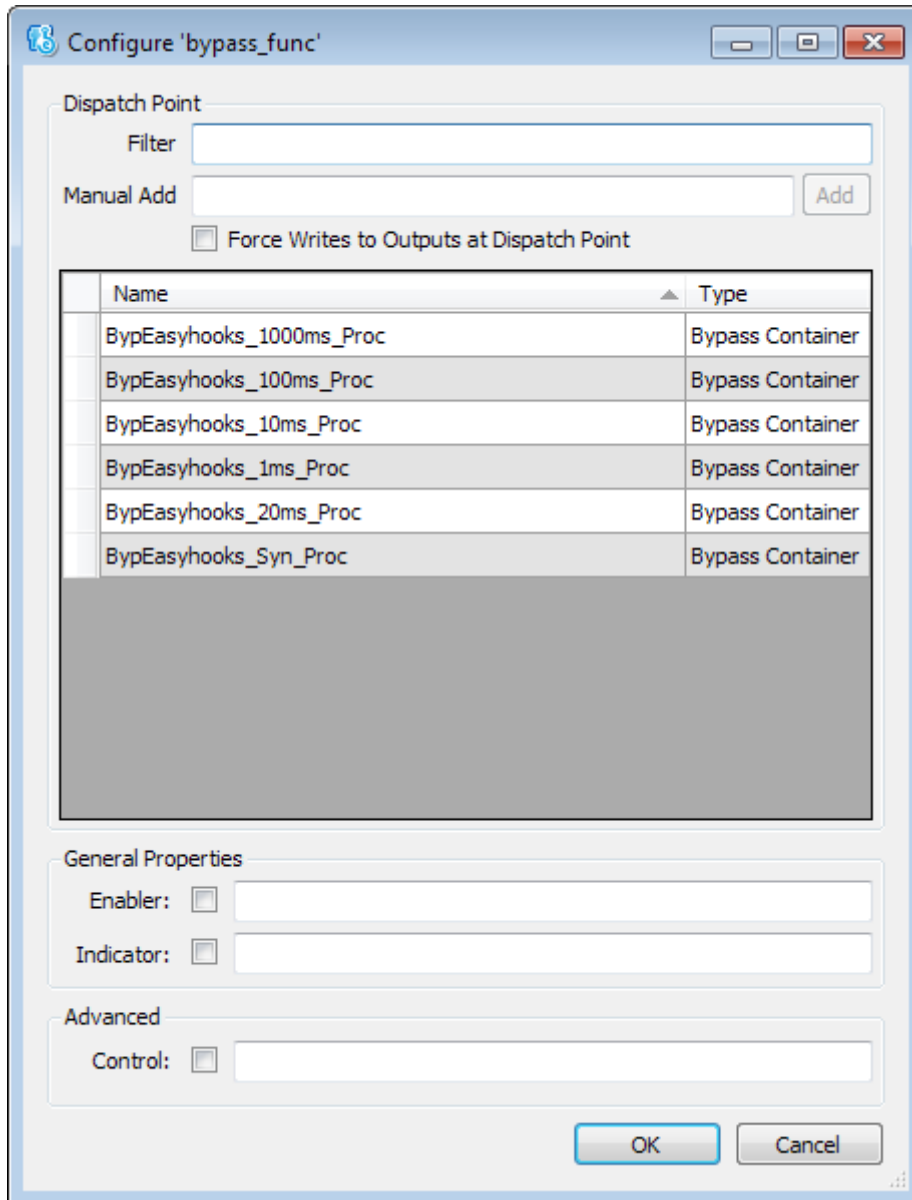

Figure 4.23: Selecting a Bypass Container Dispatch Point
- Open the "Dispatch Point" combo box and select `<Select>`. If EHOOKS is not already running, it is started now. A configuration dialog (see Figure 4.23 on page 43) that lists all available dispatch points opens.